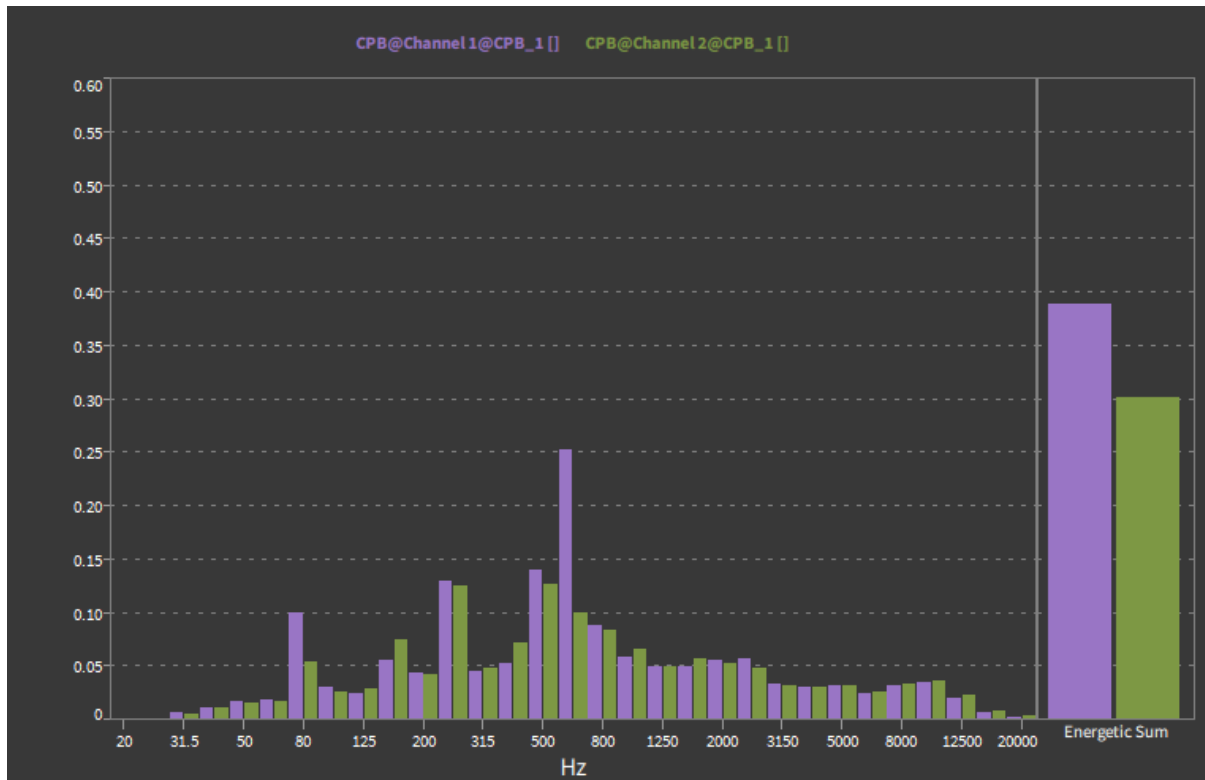

Fig. 8.99: Array Chart with *Total* column included
- Total Computation: It is possible to include a *Total* column (see Fig. 8.99) on the right hand side that display the following value: